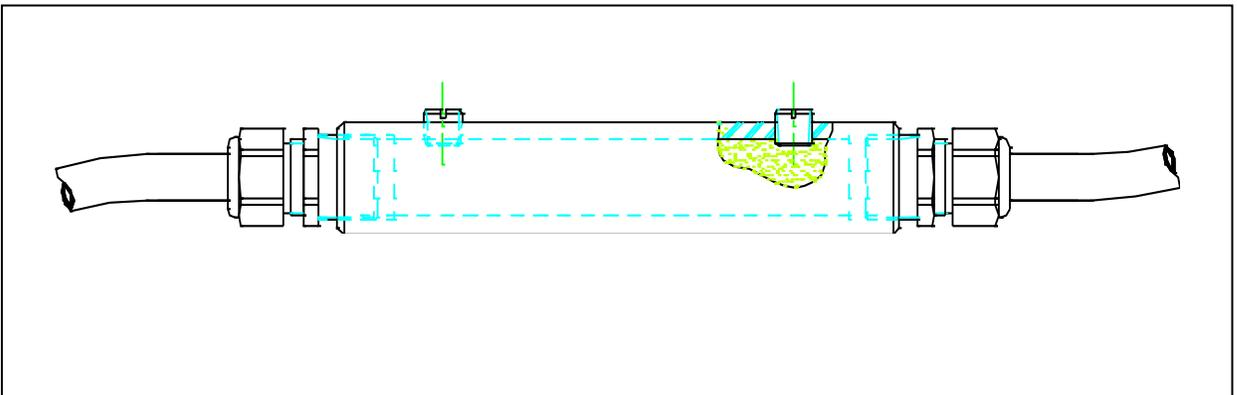

Figure 4: Cable splicing assembly with IRC-390 cable with vented plug (FR-1135050900E)
13. If you have plug on sleeve as illustrated on Figure 4 then you can screw both connectors and fill the resin by one hole until resin evacuated from the second hole. Then screw both plugs and let the resin dry.